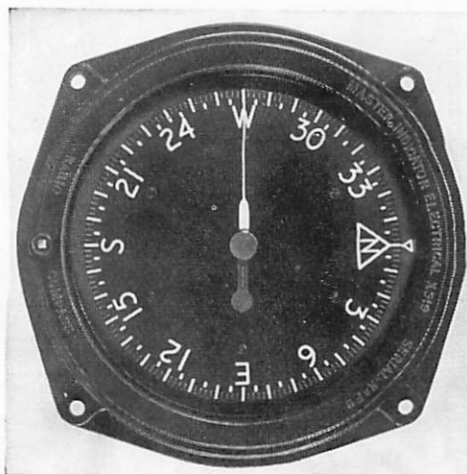

Fig. 3.
9. *Master Bearing Indicator.* The graduated dial of this instrument (Fig. 3) is the repeated